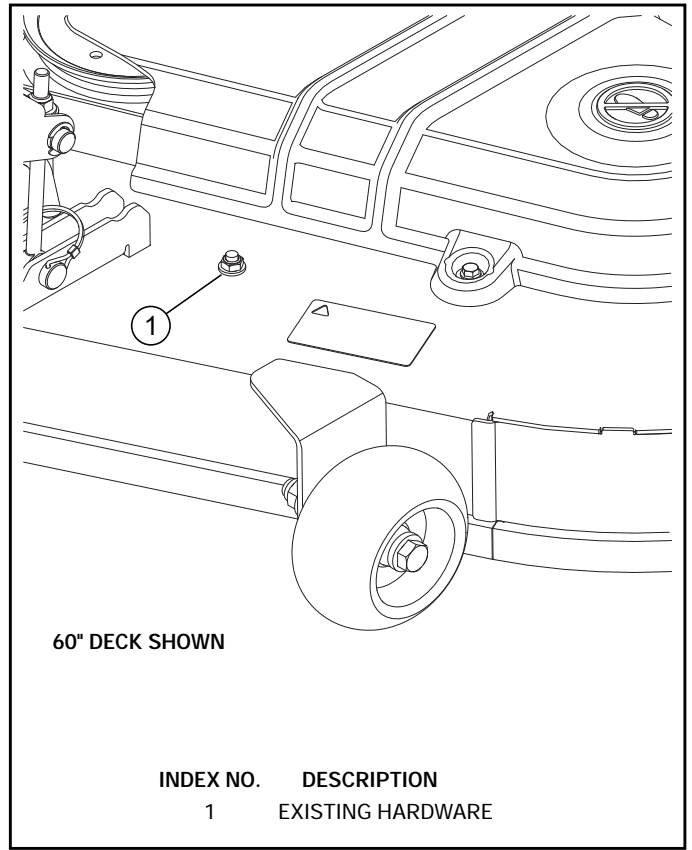

FIG. 2
4. **54"/60" decks only** — Remove the bolt, flat washer, and nut shown from the deck plate. This hardware will not be used when the mulch kit is installed. Fig. 2